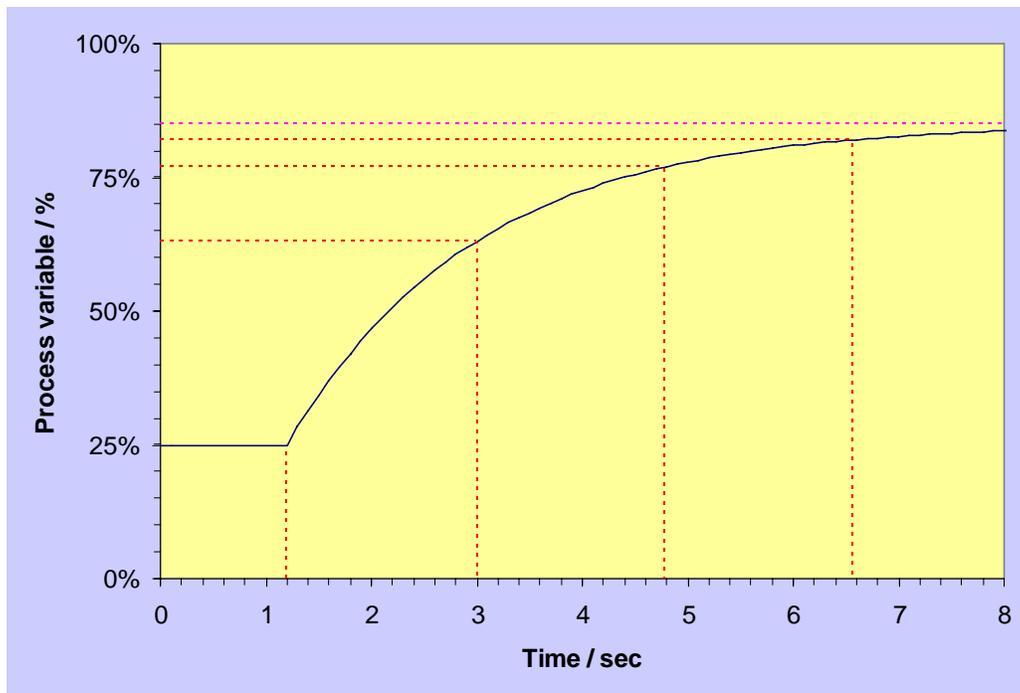
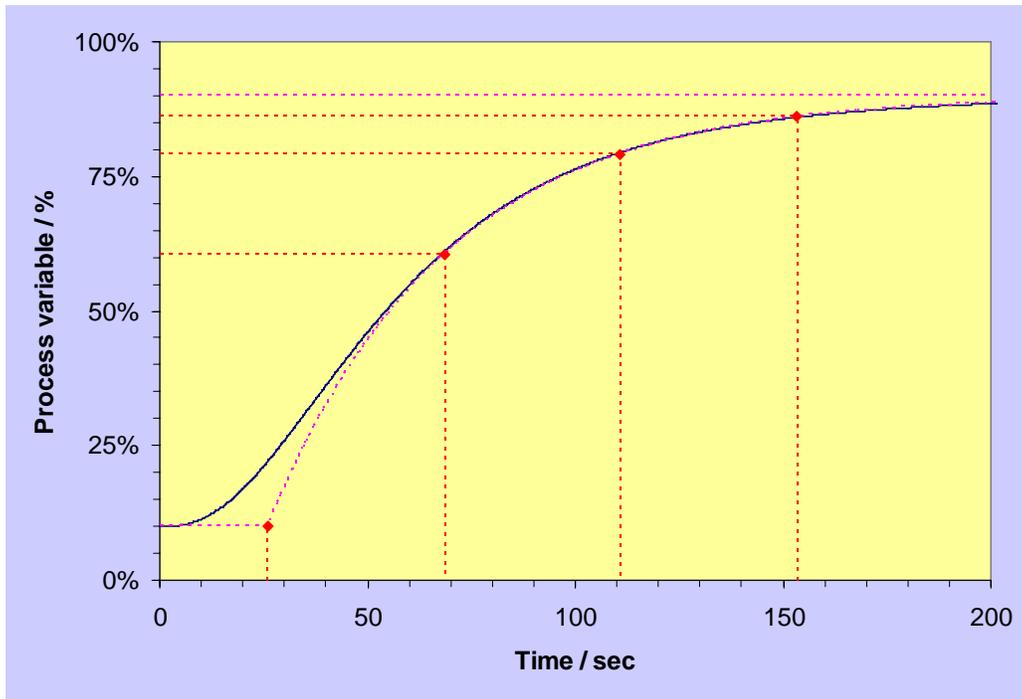

Figure 1: PV response to step change
Figure 3: More normal step response
The 'micro-lite' version of U-Tune is designed for processes with an open loop step response of the form shown in Figure 1. That is, when the controller is operated in manual mode and its output is stepped to a new value, the process variable (PV) does not respond initially but then rises to settle onto a new value. Some processes react rather differently to this: the process variable continues to rise until the controller output is stepped back again. Tuning of these integrating processes is supported by the full version of U-Tune.
Figure 1 shows the response of the process variable to a step change of the controller output applied at $t = 0$ seconds. The output is not shown but has changed from 20% to 65% i.e. the step size is 45%.
Figure 1 gave the step response of an ideal process. In practice, the responses are generally more S-shaped like in Figure 3 where the PV begins to rise slowly at first and then faster before slowing down again. Assume that the CO has changed at $t = 0$ seconds.
The time delay is now not quite as easy to measure. The best way is to mark the points for which the PV reaches 63%, 86% and 95% of its change. The difference in time between reaching 63% and 86% is the time lag and similarly between 86% and 95%. Subtract the time lag from the time to reach 63% and this gives the end of the time delay. For example, in Figure 3: